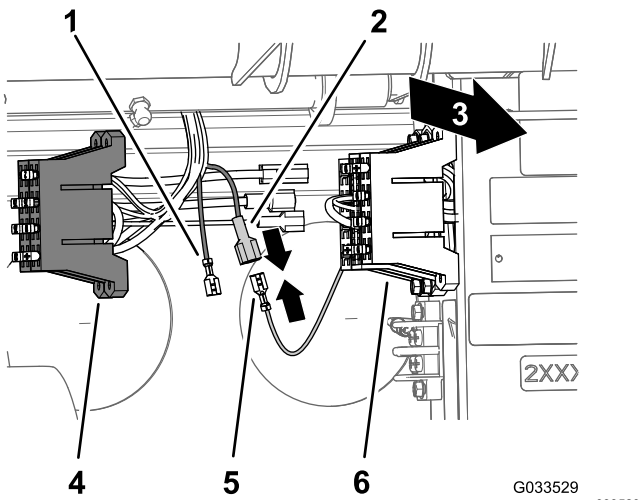

Figure 23
2. Locate the uninsulated receptacle terminal at the end of the open, yellow power wire of the fuse block for the machine and the insulated blade terminal at the end of the yellow, optional power wire of the fuse block of the sprayer wiring (Figure 23).
3. Connect the uninsulated receptacle terminal of the fuse block for the machine to the insulated blade terminal of the fuse block of the sprayer (Figure 23).